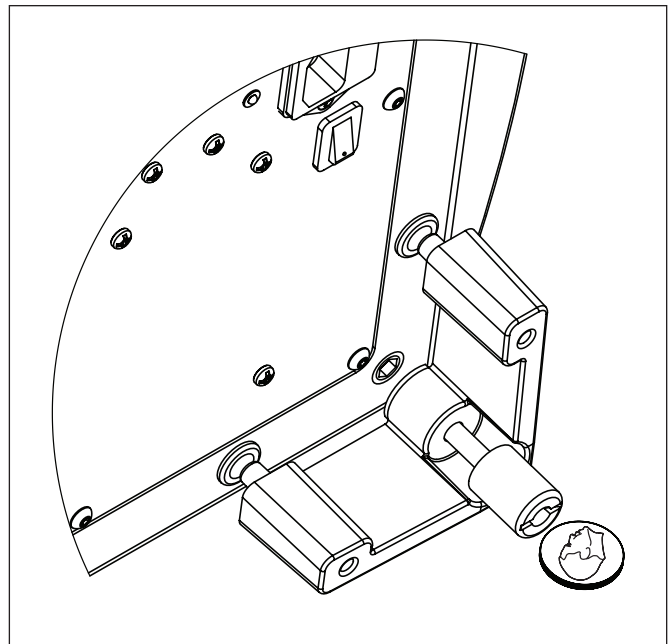

Figure 10. To change woofer orientation, use a coin to unscrew the attached feet, change location, and reinstall.
- 2 Carefully lay the Dynamo 700 on its side. Using a coin, unscrew the attached feet. (see figure 10).
- 4 Using a coin, reinstall the feet (see figure 10).